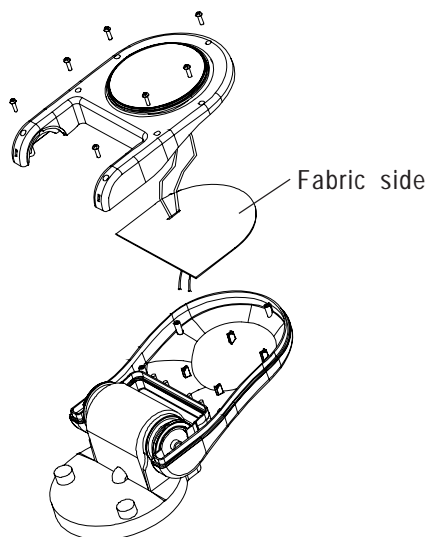

Figure 5
2. Lift spotlight head so that it is facing up as in Figure 5.